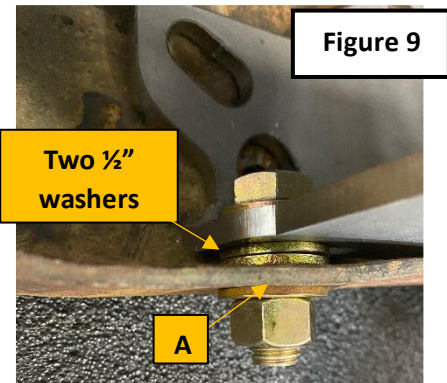

Figure 9
4. Once rivet is removed, line up bracket with frame as shown in Figure 8. Install a 5/8 bolt with nut in slotted hole shown in Figure 8. Install a 1/2" bolt with (2) washers between bottom of bracket and inside of frame as shown in Figure 9 in hole marked "A." Then tighten both this 1/2" bolt and 5/8" bolt to prevent bracket from moving – double check that bracket is still in correct location as shown in Figure 8.